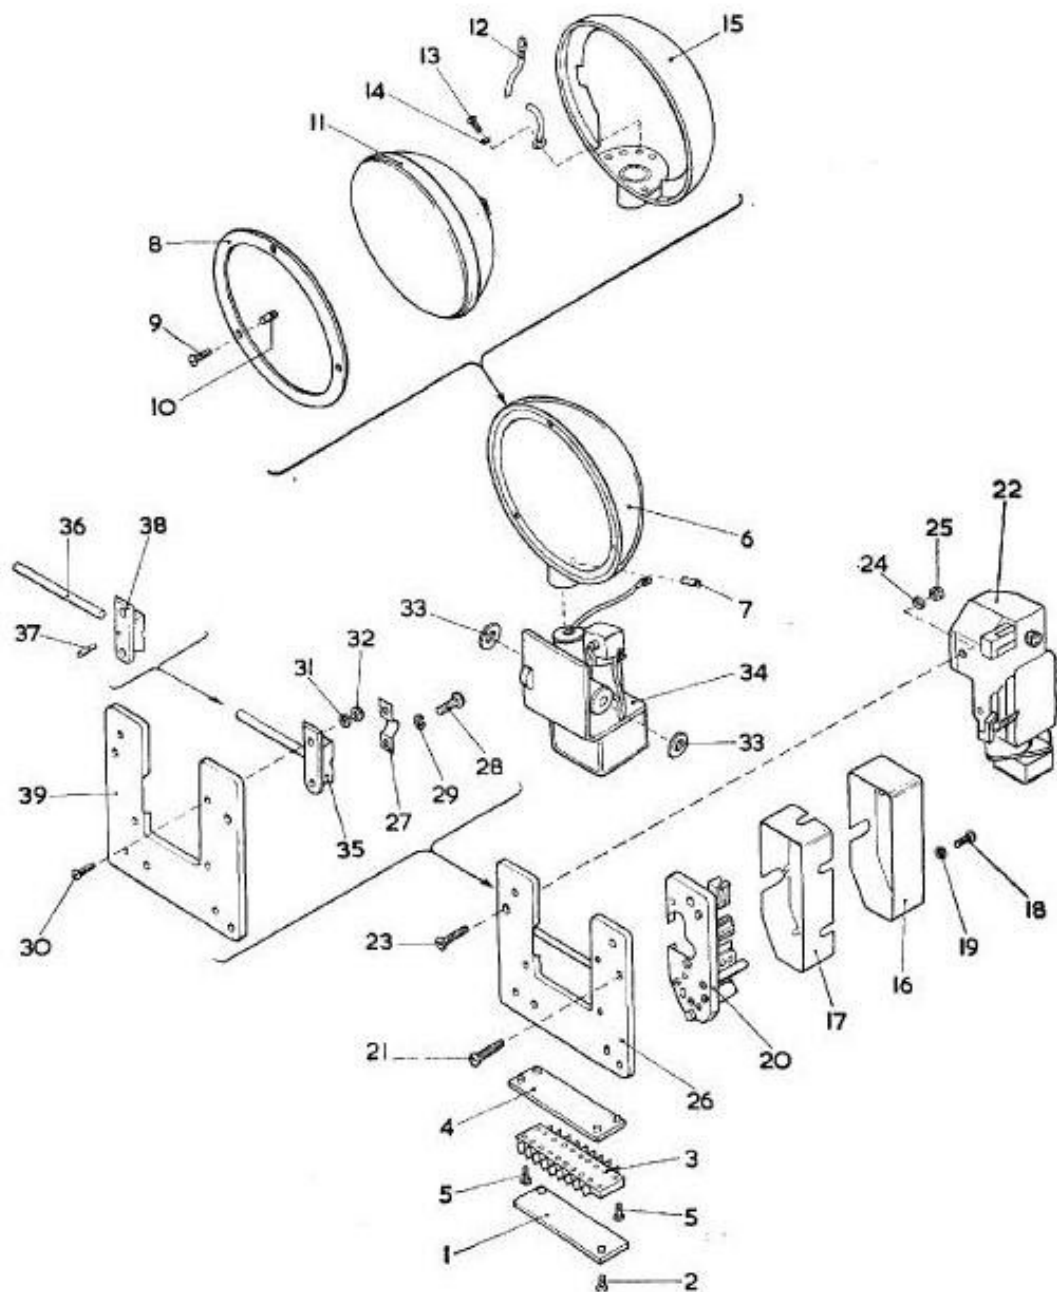

Fig. 7. Exploded view of lamp
17. Should components of any of the sub-assemblies require renewal, or detailed inspection of any component be necessary, the assemblies may be removed from the base plate for ease of servicing. The key numbers given for the exploded view, fig. 7 may be used as a guide to the order of removal of the assemblies; but individual assemblies may be removed if desired. It should be noted that when the elevation gearbox and motor assembly (item 22) is removed the sealed beam housing assembly should be supported on the bench, as removal of the gearbox will leave one end of the journal shaft unsupported.
KEY TO FIG. 7